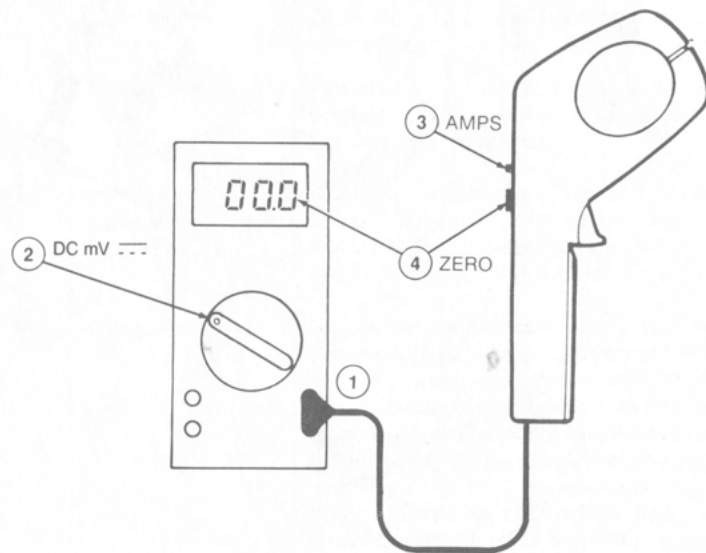

Figure 2-2. DC Zero Adjustment
1. Connect the probe output cable to the voltmeter input and turn the voltmeter on as shown in Figure 2-2. (Observe polarity on output cable.)
If the voltmeter is dc coupled on the ac function, perform steps 2, 3, and 4 of the dc ZERO adjustment procedure (Figure 2-2) before proceeding to the next step.